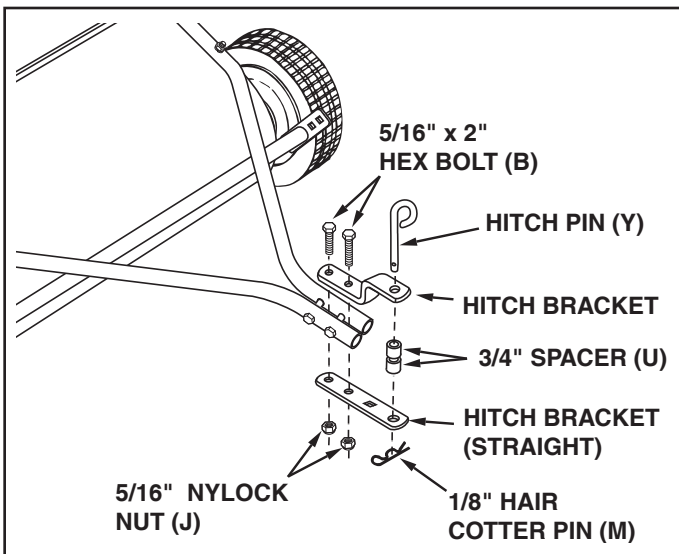
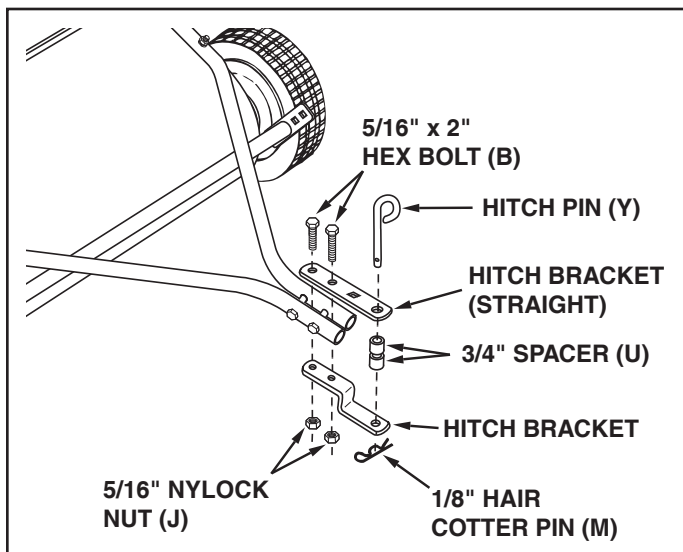

FIGURE 6
FIGURE 7
STEP 6: (SEE FIGURE 6 AND 7)
If your tractor hitch has 10" to 13" ground clearance refer to figure 6. If your tractor hitch has 8" to 10" ground clearance refer to figure 7.